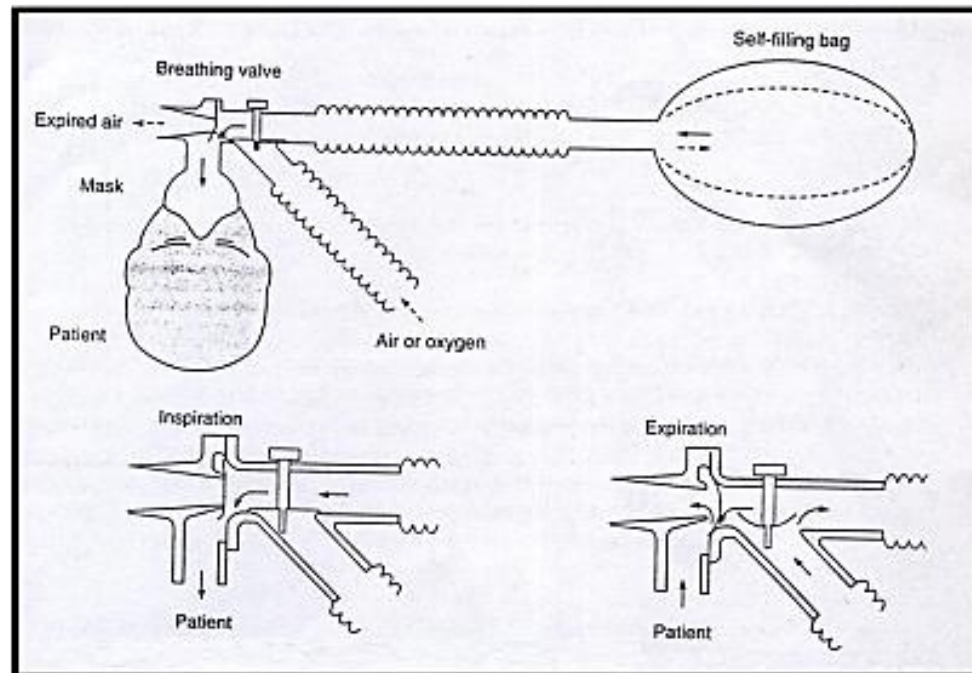

Figure 1, manually operated ventilator
- The very early devices used bellows that were manually operated to inflate the lungs as in figure 1. Today's respirators employ an array of sophisticated components such as microprocessors, fast response electrical valves, and precision transducers to perform the task of ventilating the lungs.